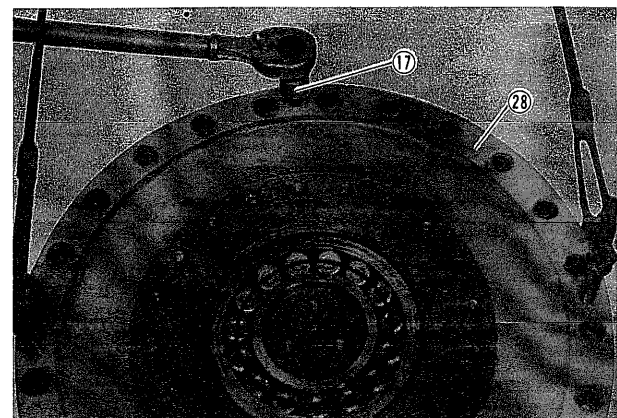

Fig. 78
- (7) Remove bolts (17) and remove axle shaft (28). (SV91T, SV91D & SV91DP) (Fig. 78)